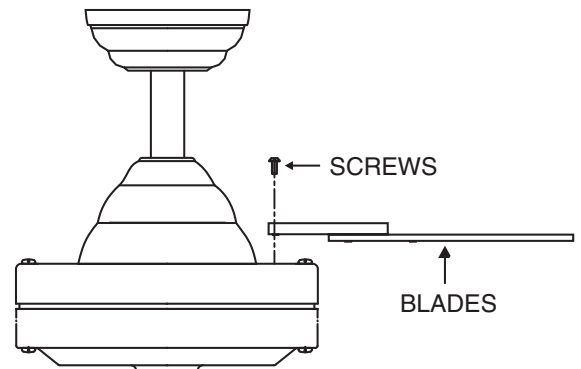

FIGURE 10
1. Fasten blade assembly to motor using the screws supplied. (Fig. 10)